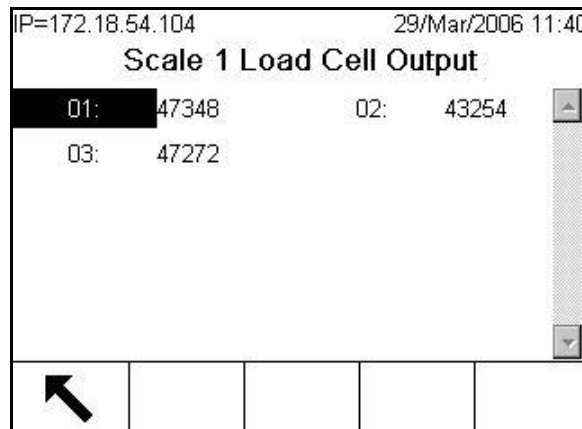

Figure 4-19: Load Cell Output Screen
- **Load Cell Output**—Displays the current load cell output (active weight) for the scale (Figure 4-19). The numbers in the scale below feature load cell addresses for each output. For digital load cells, individual cell counts will be displayed. Individual cell counts are the raw output of the load cells, which the indicator translates into weight by calculation, using information it acquires through the calibration process.